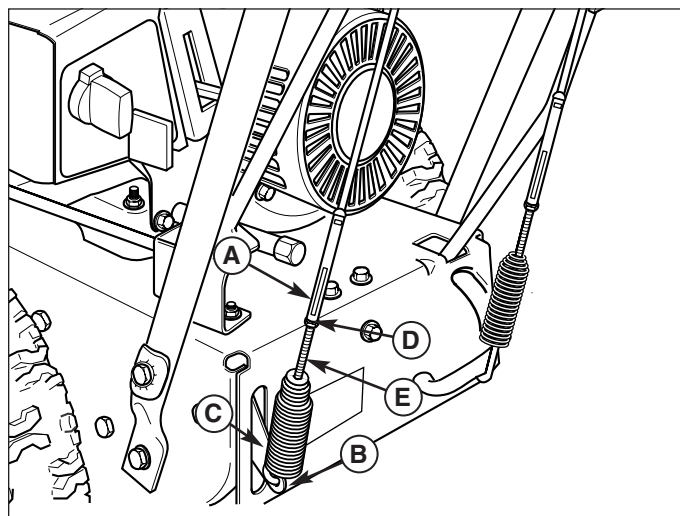

Figure 22. Traction Drive Adjustment (Tube Handle Models)
1. To adjust tension on the cable loosen adjustment hex nut (D, Figure 22) by holding the adjusting flats (A). Turn the adjustment screw. The adjustment screw is a phillips screw and the head can be held or turned by inserting a screwdriver through the traction drive clutch cable spring